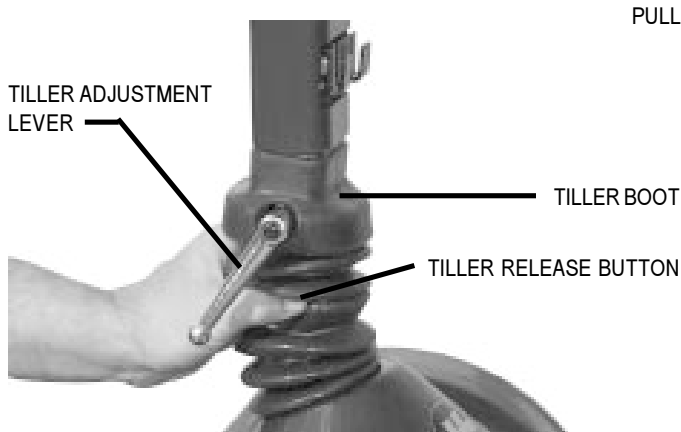

FIGURE 8A. ADJUSTING THE TILLER ANGLE
1. Turn the tiller adjustment lever counterclockwise until it is loose. If the tiller adjustment lever comes in contact with the tiller basket, pull the lever outward, turn it clockwise, and release it. Continue to loosen until the tiller is able to move. See figures 8A and 8B.
8. Turn the tiller adjustment lever counterclockwise until it is loose. Pull the rubber boot upward to expose the tiller release buttons. With one hand on the rear of the tiller, carefully depress both tiller release buttons while slowly lowering the tiller to the center of the floorboard. See figure 8A.